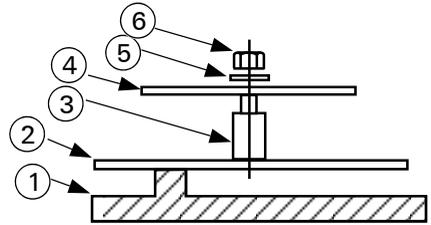

Fig. 3: ANC-8 - PCB Fixing Detail
- 1 Assemble the required ancillary PCBs onto the chassis plate as required, fixing as shown in Fig. 3.